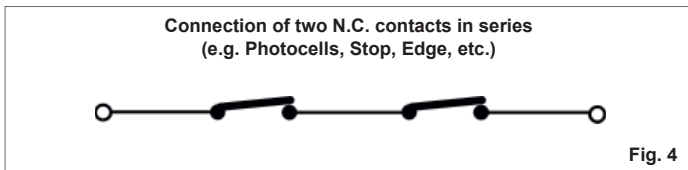

Fig. 4
👉 If two or more safety devices have the same function (opening, closing, opening and closing, edge), the contacts must be connected to each other in series (fig. 4). N.C. contacts must be used.
**To install several safety devices, connect the N.C. contacts in series (fig.4).**